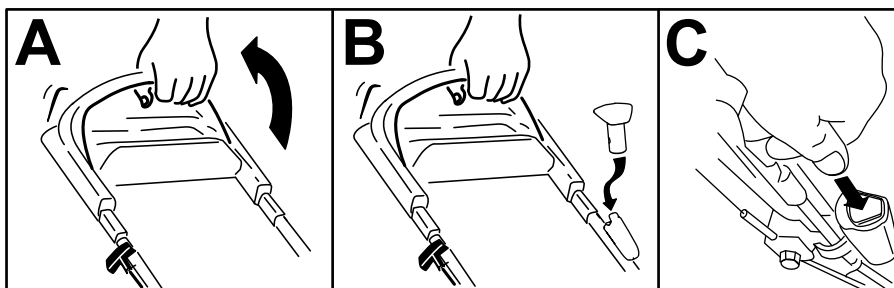

Figure 13
1. Hold the blade-control bar against the handle (A of Figure 13).
2. If the electric-start button has been removed, insert it in the electric starter (B of Figure 13).
3. Push the electric-start button until the engine starts (C of Figure 13).